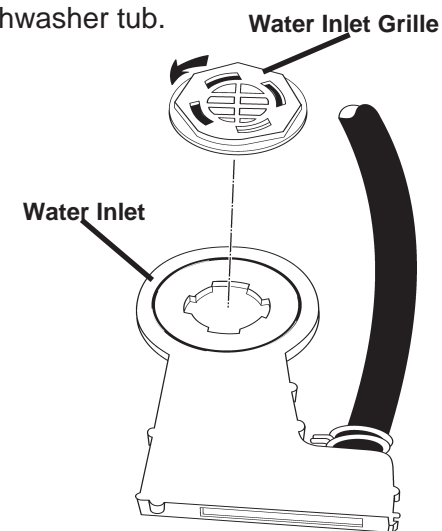

Fig. 3-13
1. From the inside of the tub, use a small pair of Channel Locks™ and turn the inlet grille ¼ turn counterclockwise and remove the grille. (Fig. 3-13)